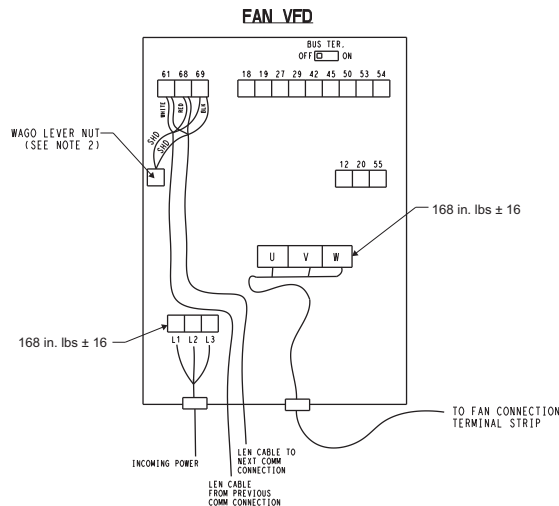

Fig. 163 — Fan Drive Wiring
5. Connect power and LEN control wiring to the drive. For wiring details for fan drives, see Fig 163. Use the same knockout openings on the new drive as on the drive being replaced. Torque connections are 16 ft-lb for lug terminals.